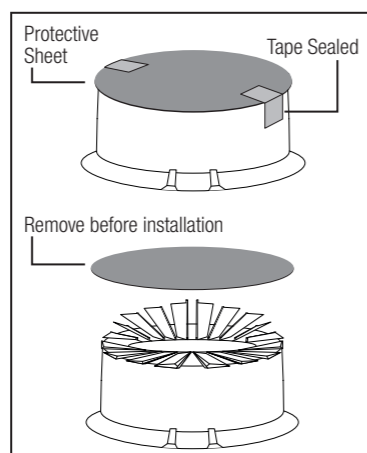

Fig. 5
- Remove protective sheet from the product before installation (Fig.5)